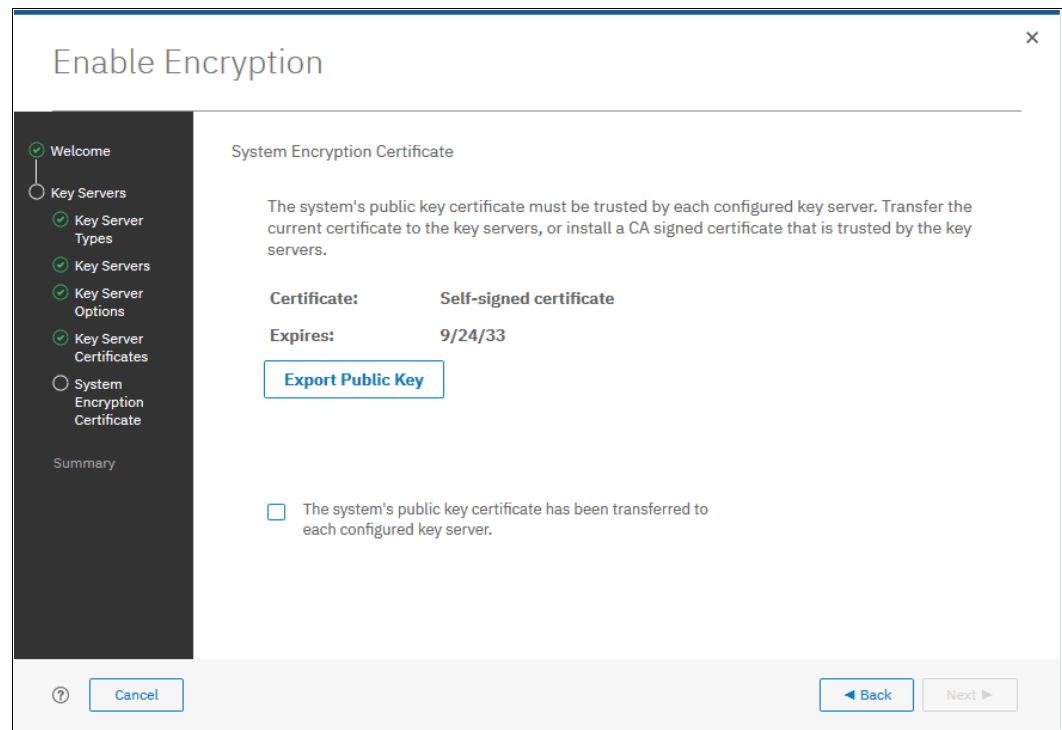

Figure 13-36 Downloading the IBM Spectrum Virtualize SSL certificate
8. Configure the SKLM key server to trust the public key certificate of the IBM Spectrum Virtualize system. You can download the IBM Spectrum Virtualize system public SSL certificate by clicking **Export Public Key**, as shown in Figure 13-36. Install this certificate in the SKLM key server in the SPECTRUM_VIRT device group.